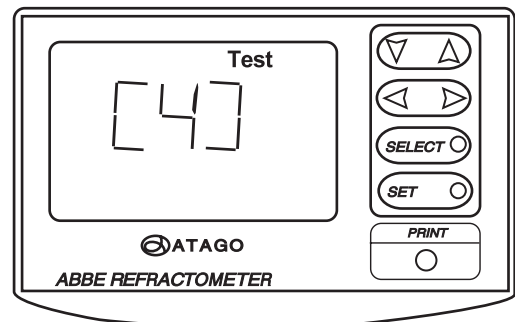

Fig.11-4
③ Press the SET key. The indication on the display changes as shown in Fig. 11-4.